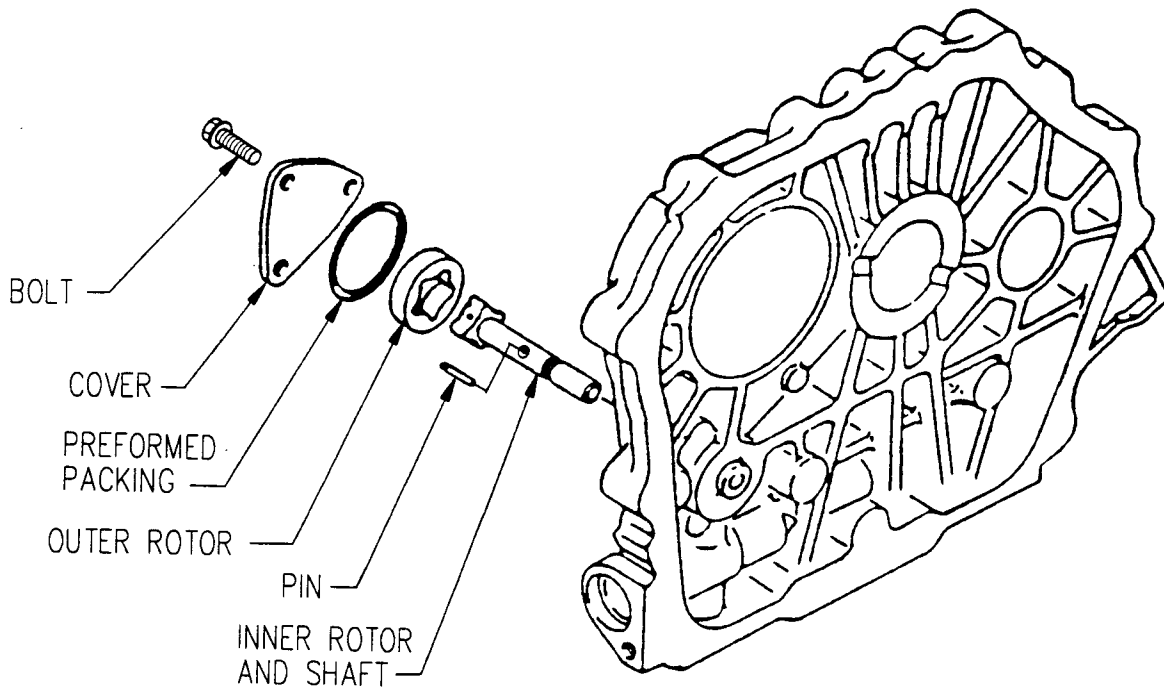

Figure 5-16. Oil Pump Assembly
- (1) Shut down generator set.
- (2) Remove crankcase cover, refer to paragraph 5.16.a.
- (3) Remove governor gear and spindle from oil pump shaft, refer to paragraph 5.24.b.
- (4) Remove bolts (Figure 5-16), cover, and preformed packing from crankcase cover.
- (5) Remove pin (from oil pump inner rotor and shaft), outer rotor, and inner rotor and shaft from crankcase cover.
- (1) Insert inner rotor and shaft (Figure 5-16) through crankcase cover and install pin in shaft so equal amounts protrude on each side.
- (2) Install outer rotor over inner rotor and new preformed packing in crankcase cover.
- (3) Install cover loosely with bolts, fill pump cavity with oil, and tighten bolts finger tight and 1/8 turn.
- (4) Install governor gear and spindle, refer to paragraph 5.24.c.
- (5) Install crankcase cover, refer to paragraph 5.16.c.